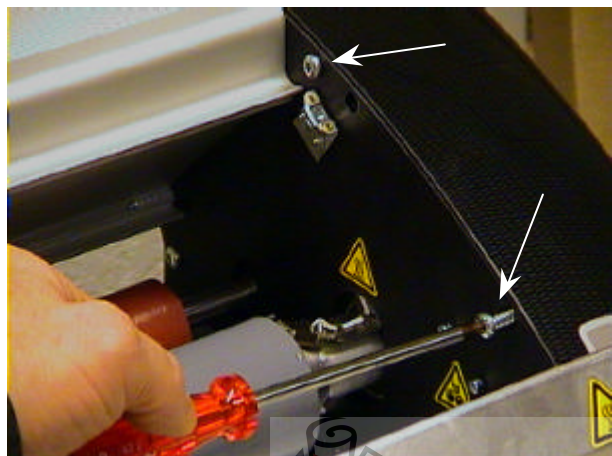

fig. 10
1. Remove the two self-tapping screws, using the TX25 driver, as shown in figure 10. The right hand cover is shown here.